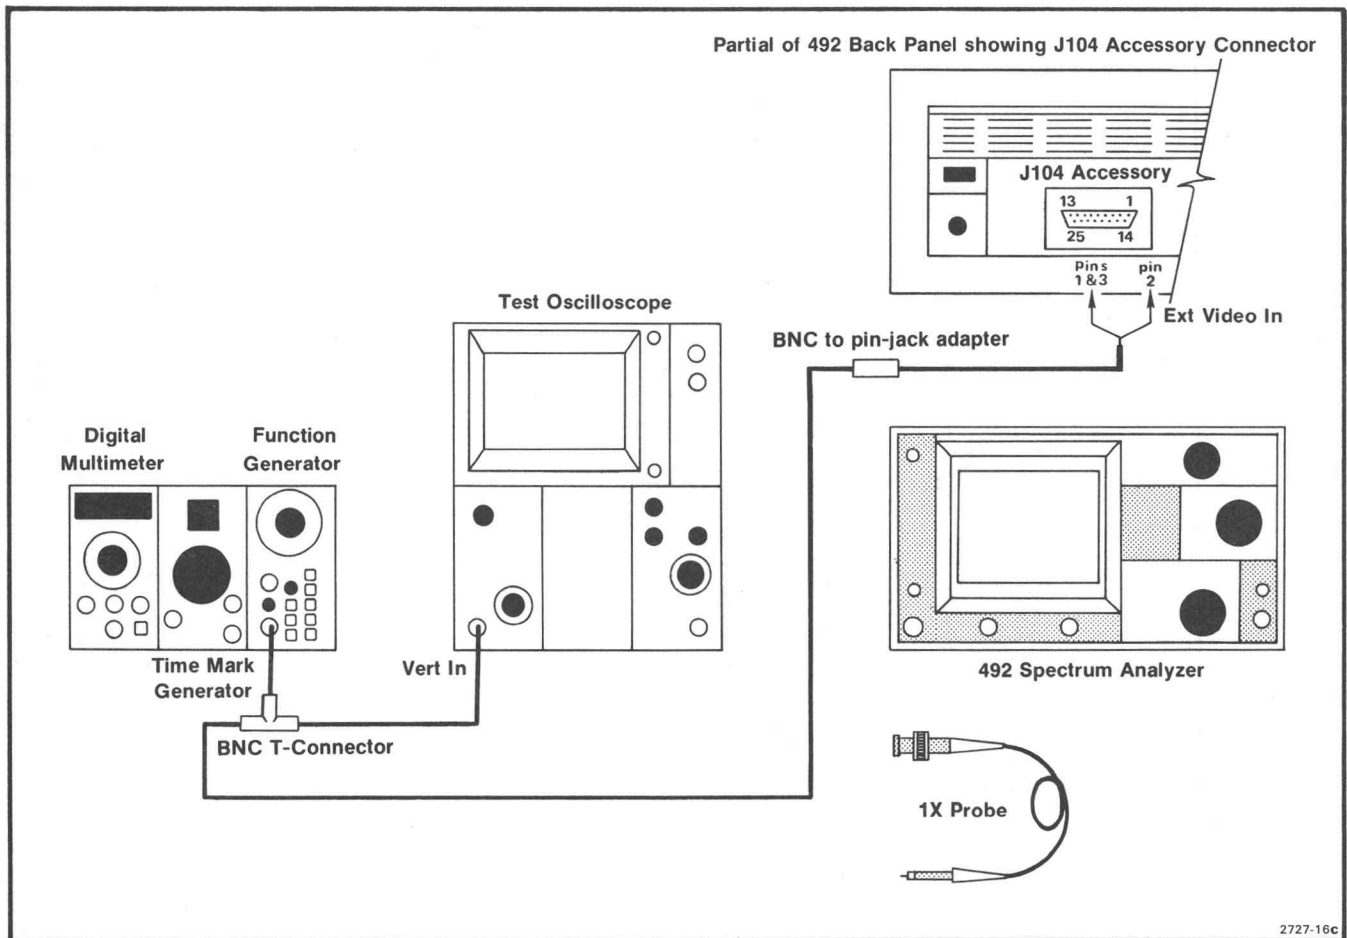

Fig. 3-25. Test equipment setup for calibrating the Deflection Amplifier.
a. Test equipment setup is shown in Fig. 3-25. Set the TIME/DIV to 5 ms. Vertical Display to 2 dB/DIV, and switch Digital Storage off. Position the trace on the bottom graticule line.
b. Apply a 5 kHz, 0 to +4 V signal, from the sine-wave generator, through a BNC-to-pin-jack adapter, to the Ext Video input (pin 2) and Video Select (pin 1) of the ACCESSORIES jack (see Fig. 3-25).